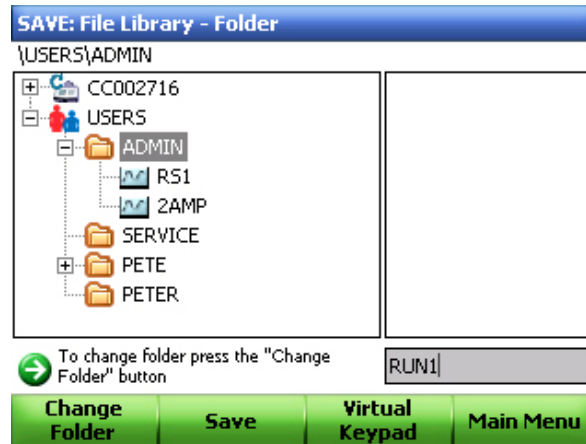

Figure 41. Entering a protocol name.
3. Click **Edit Filename** (F1) and type a new name in the box (Figure 41).
4. Click **Save** (F2) (Figure 41).